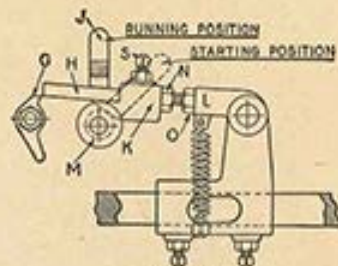

Figure 12.
Figure 12. This is a line drawing of the tripping mechanism showing how it should be set for proper running. It also shows the timing lever "J." Be sure when starting the engine that this is pushed to the right as far as it will go. This retards the spark and prevents the engine from kicking back when starting.
**Second.** Place the timing lever "J" (Figure 12) in the starting position. This retards the spark and prevents the engine from kicking back when you start it.
**Fifth.** As soon as engine starts open the air damper, change the timing lever "J" (Figure 12) to the running position and close the fuel valve slowly until the point is reached where the engine runs with the least number of explosions and without black smoke appearing at the exhaust or a popping sound at the mixer, the latter being caused by an insufficient supply of fuel, and smoke at the exhaust by too much fuel.
**Second.** Place the timing lever "J" (Figure 12) in the starting position and turn the flywheels to the right until the igniter trips, then stop.